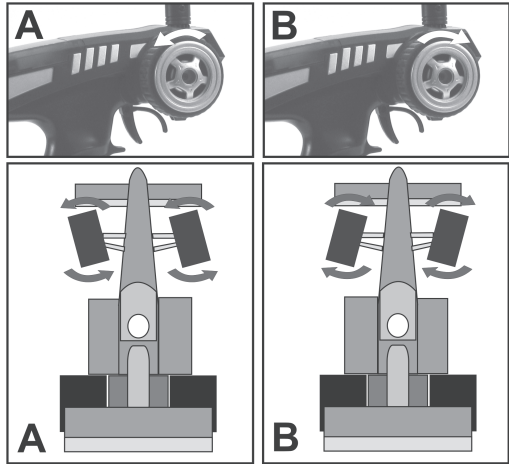

Figure 12
If you are steering to the left, the wheels must turn to the left (see figure 12, sketch A). If you are steering to the right, the wheels must turn to the right (see figure 12, sketch B).
If the wheels react opposite to the direction indicated in figure 12, use the steering function reverse switch (see figure 2, item 14) to switch the effective direction of the steering wheel and thus the steering servo rotational direction.